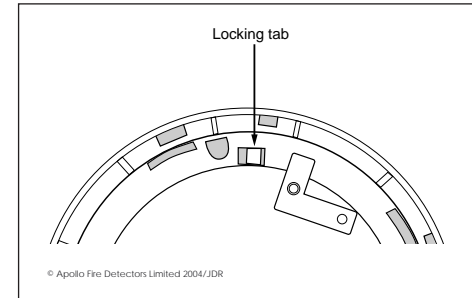

Fig 3 Position of locking tab
2. Locate the locking tab on the back of the adaptor shown in Fig 3.